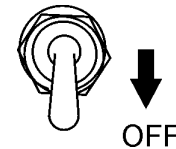

Figure 23. Idle Control switch (OFF)
3. Place idle control switch (Figure 23) in the **OFF** position.